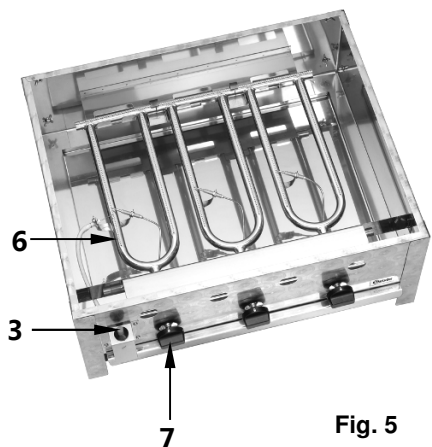

Fig. 5
- Rotate left gas knob (7) (fig. 5) from position “0” by 90° anti-clockwise and press red button of Piezo igniter (3) in order to ignite left burner (6). Hold the knob pressed for another 10 seconds so the burner remains in the operation mode. When flame goes off, it may be reignited after approx. 2 minutes.